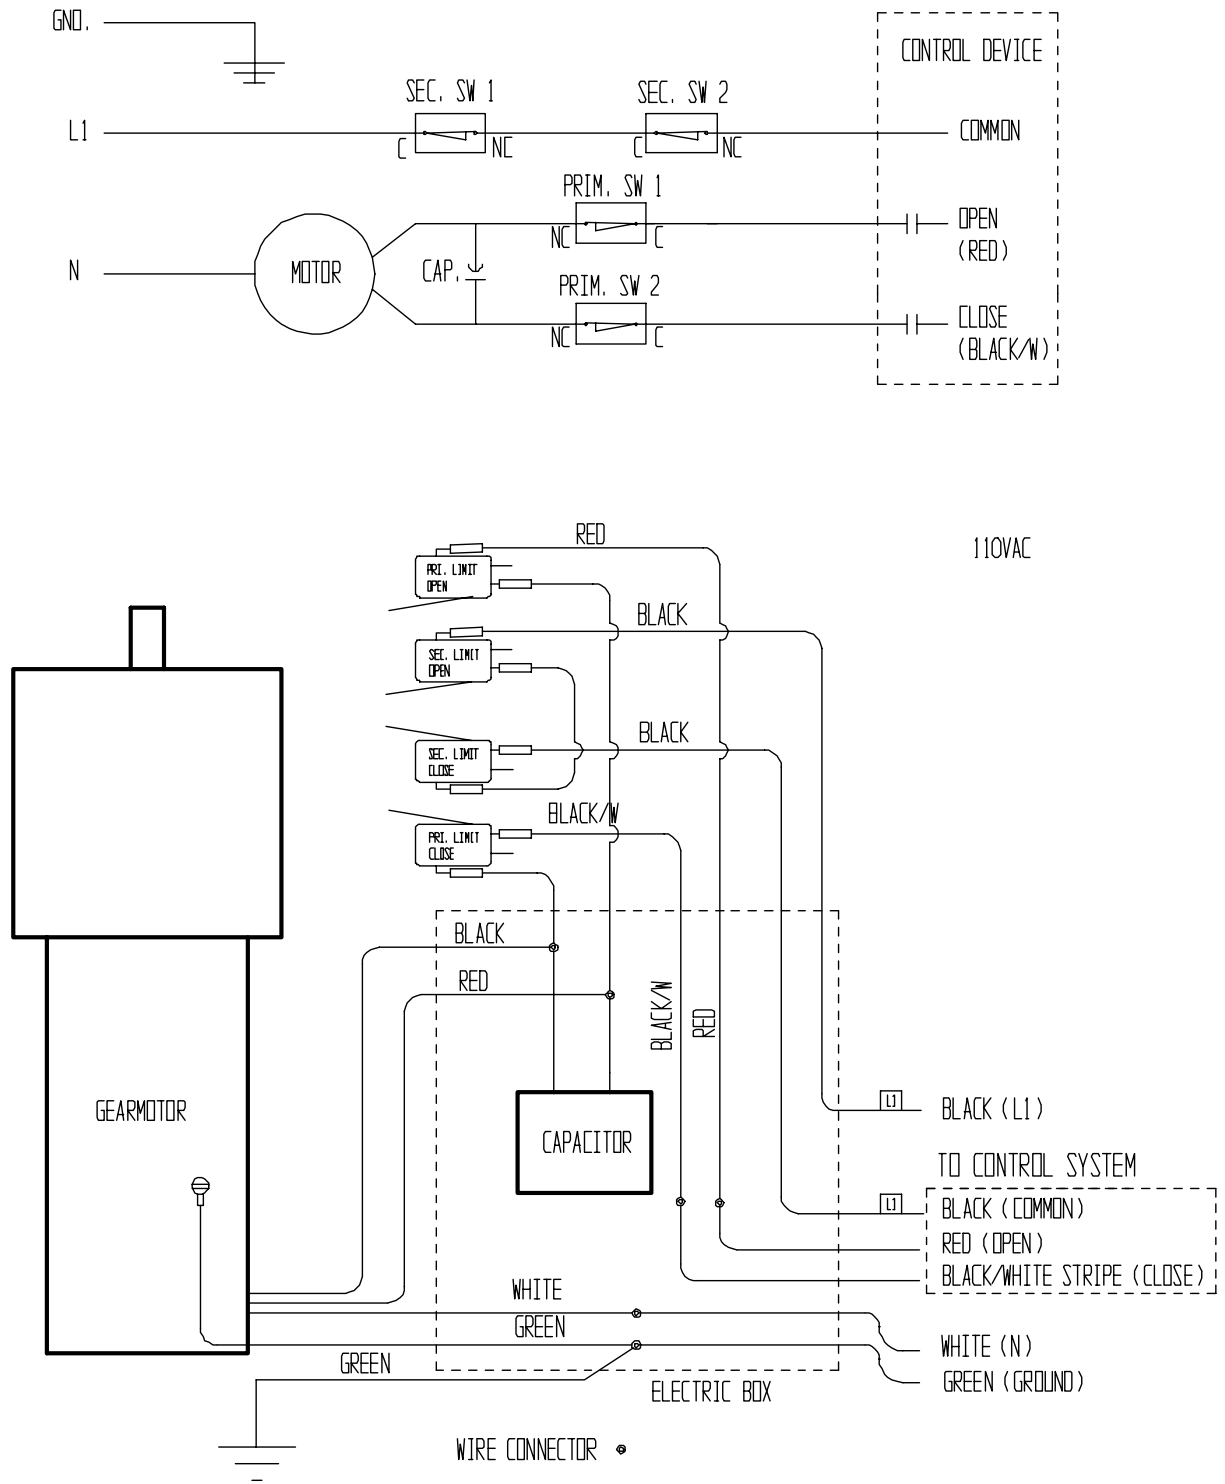

Figure 3
Step 9: Wire-nut the enclosed limit switch leads to the existing leads color to color (See Figure 3 on page 4 for wiring diagram.)